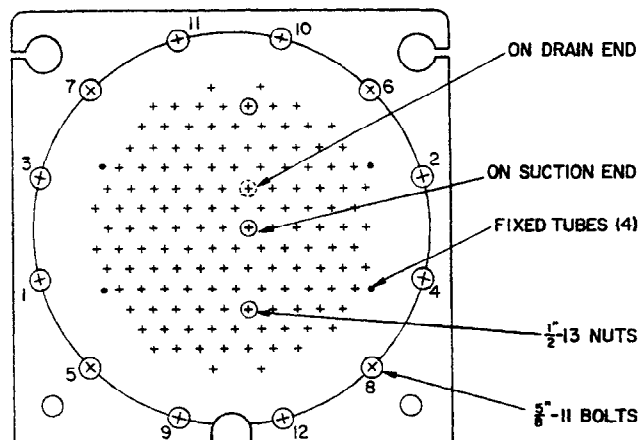

Fig. 27 — Head Bolt Tightening Sequence (30GTN, HK, HL)
Bolt Tightening Sequence (Fig. 27) — The recommended bolt tightening sequence is:
Step 2 — Following sequence shown in Fig. 27, tighten the bolts and nuts to approximately 50% of specified torque.
Bolt Tightening Sequence (Fig. 27) — The recommended bolt tightening sequence is as follows: